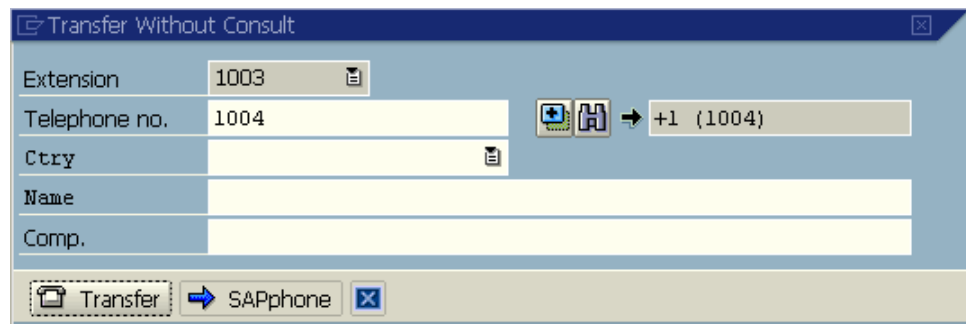

Figure 40: SAP: Initiate Transfer Without Consult Window
5. On the Customer Interaction Center screen, click Blind Transfer to transfer this call to Agent 1004. See Figure 40 for an example of the Transfer Without Consult screen.